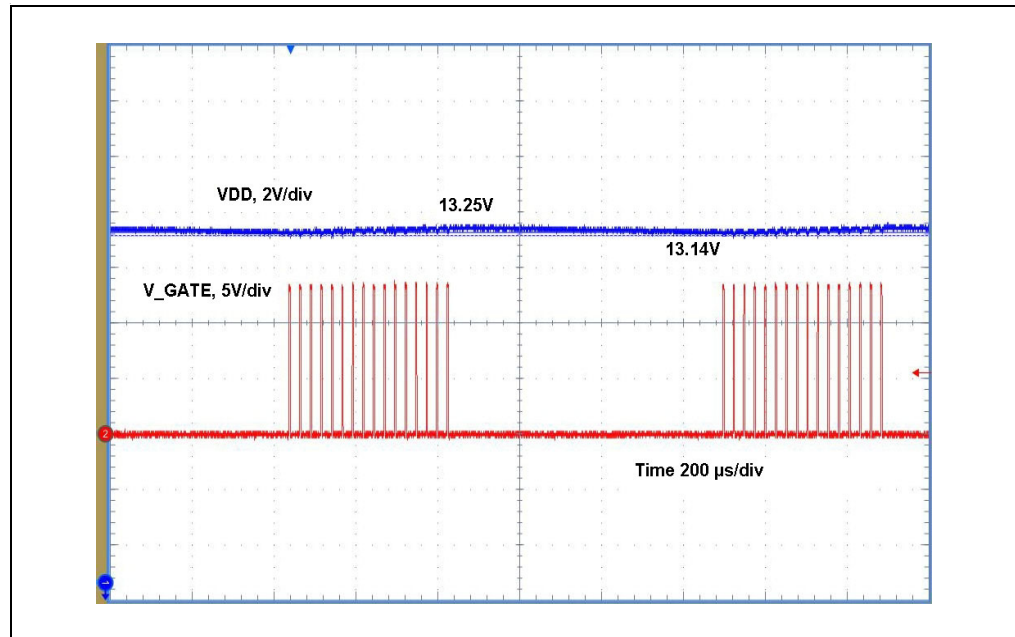

FIGURE 3-2: MCP1012 V_{GATE} and V_{DD} when a Load Is Connected.
6. Check on the oscilloscope screen the V_{DD} voltage and the GATE signal as they are presented in Figure 3-2.